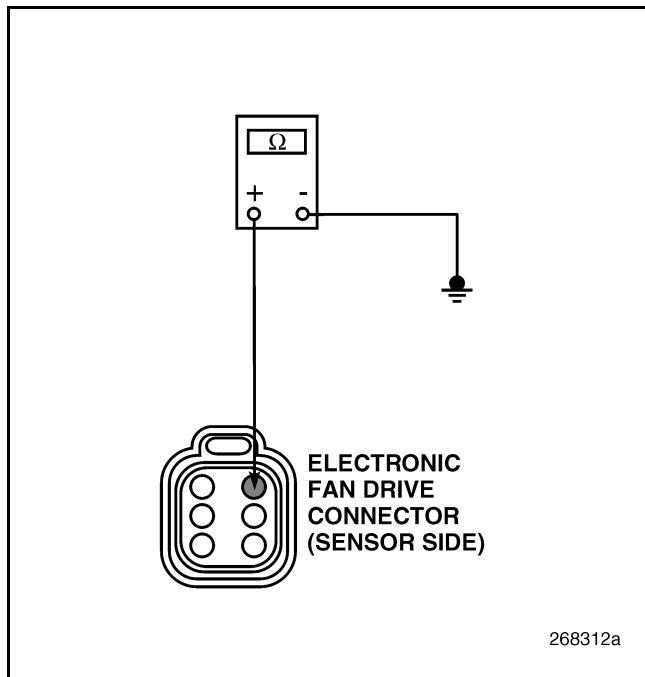

Figure 119
3. Check for continuity between the sensor side of electronic fan drive connector pin 1 and a good ground (see Figure 119).